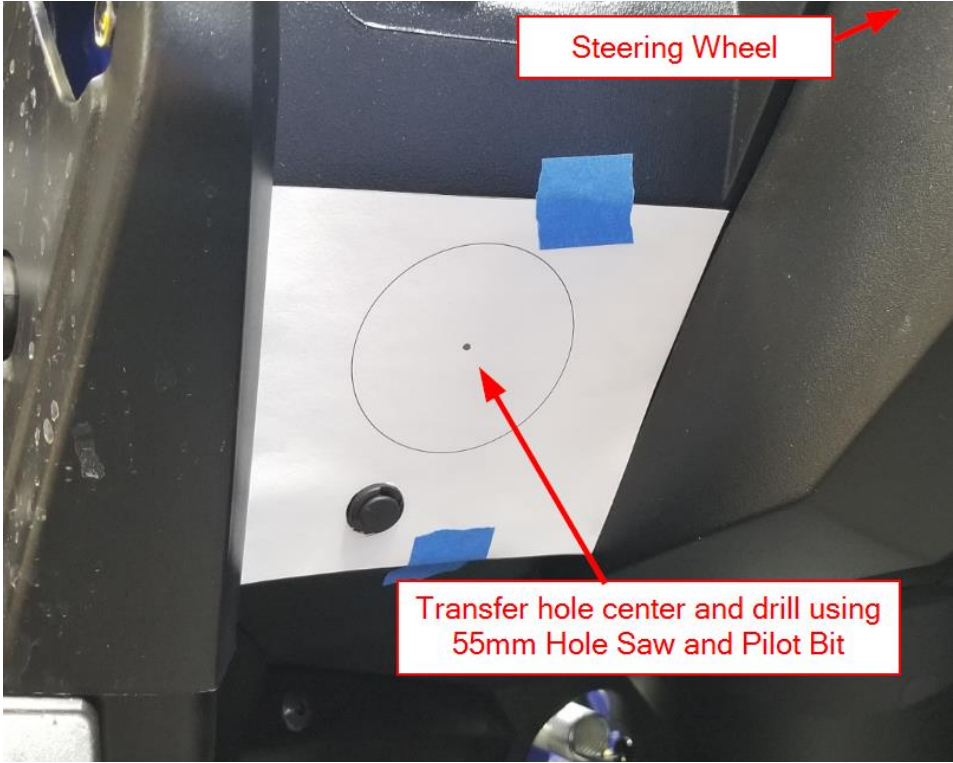

Figure 9
- d. Position the Driver Side Lower Left Vent Template as shown in Figure 9. Transfer the hole center and drill using the 55mm Hole Saw.